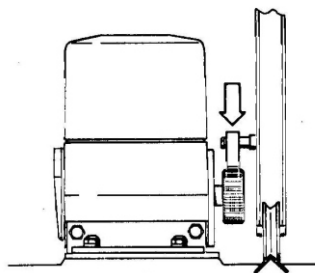

Fig. 11b
- Slide below the various rack elements positioning them in contact with the gear (Fig. 11b).